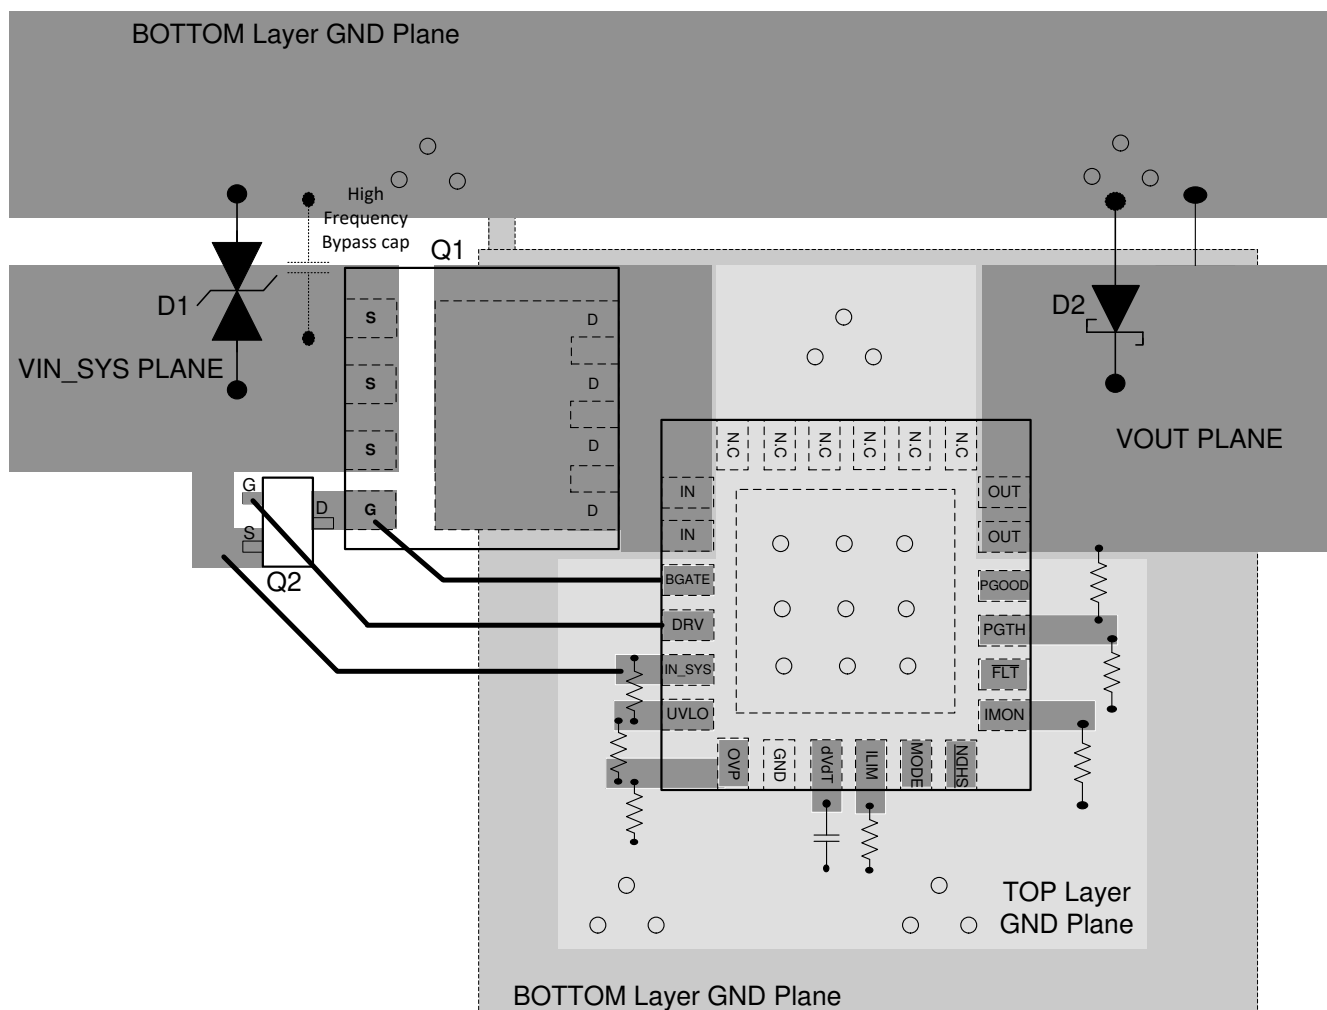
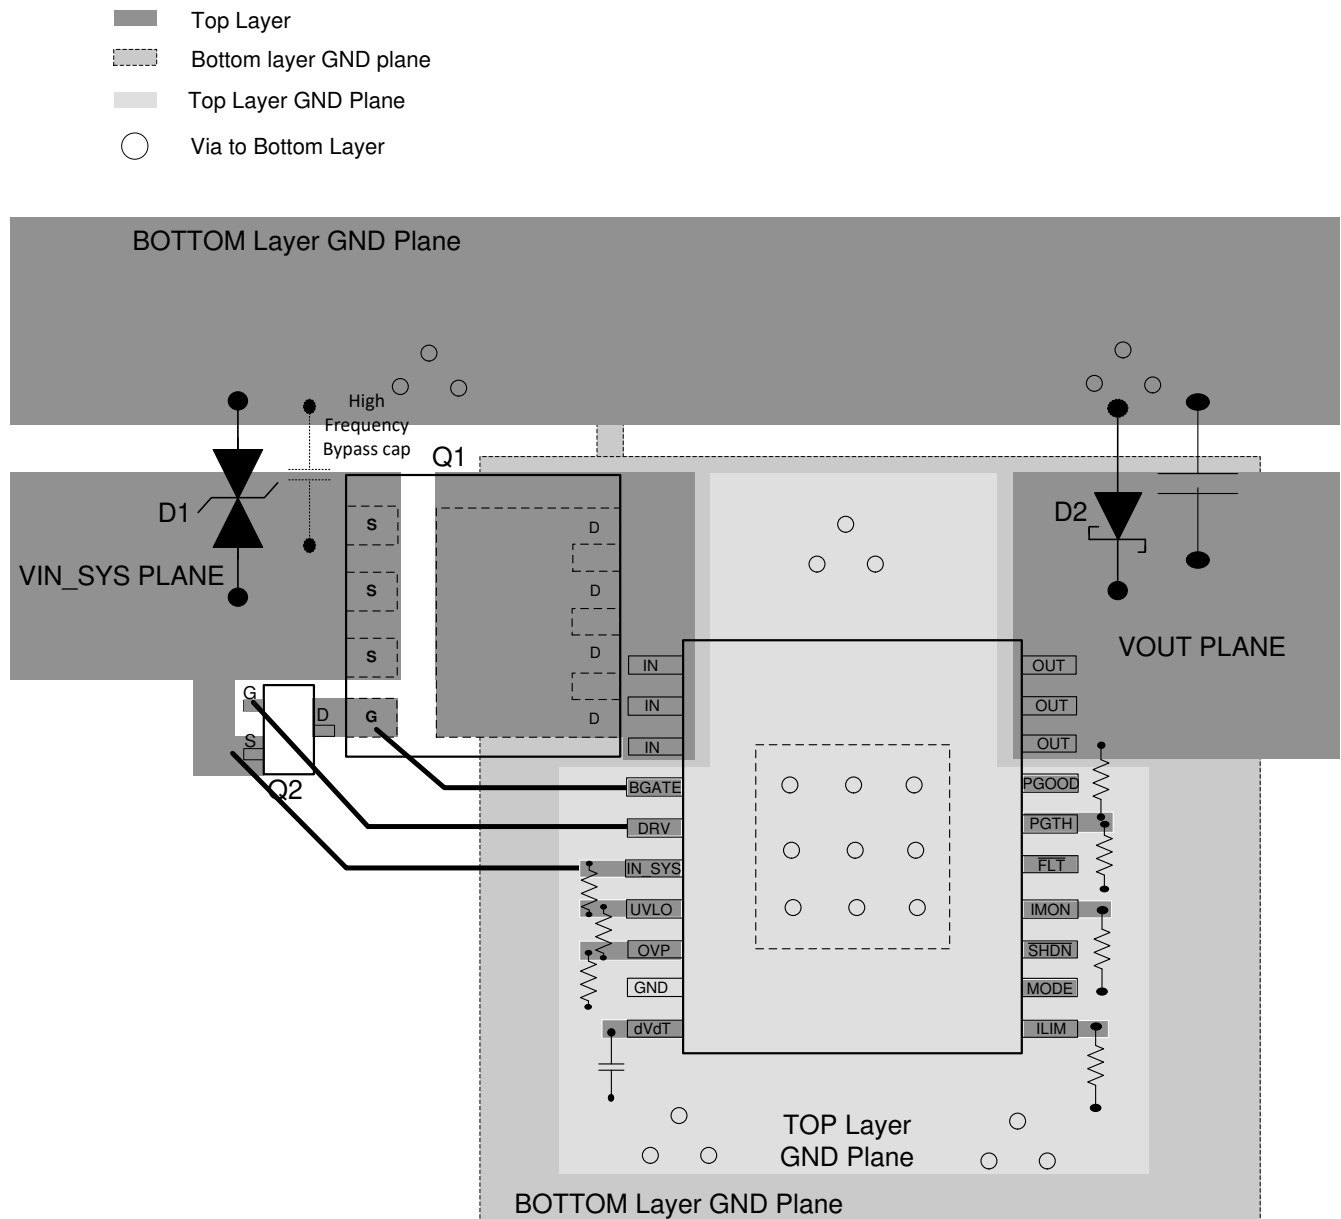

図 9-18. Typical PCB Layout Example with QFN Package with a 2-Layer PCB
Figure 9-19. Typical PCB Layout Example with HTSSOP Package with a 2-Layer PCB
- The external FET Q1 must be placed with DRAIN close to the V_{IN} pins of the IC and connected through a plane. The fast pulldown switch Q2 DRAIN and SOURCE must be placed very close to the GATE and SOURCE terminals of Q1 with very short loop. See Figure 9-18 and Figure 9-19 for a typical PCB layout example.